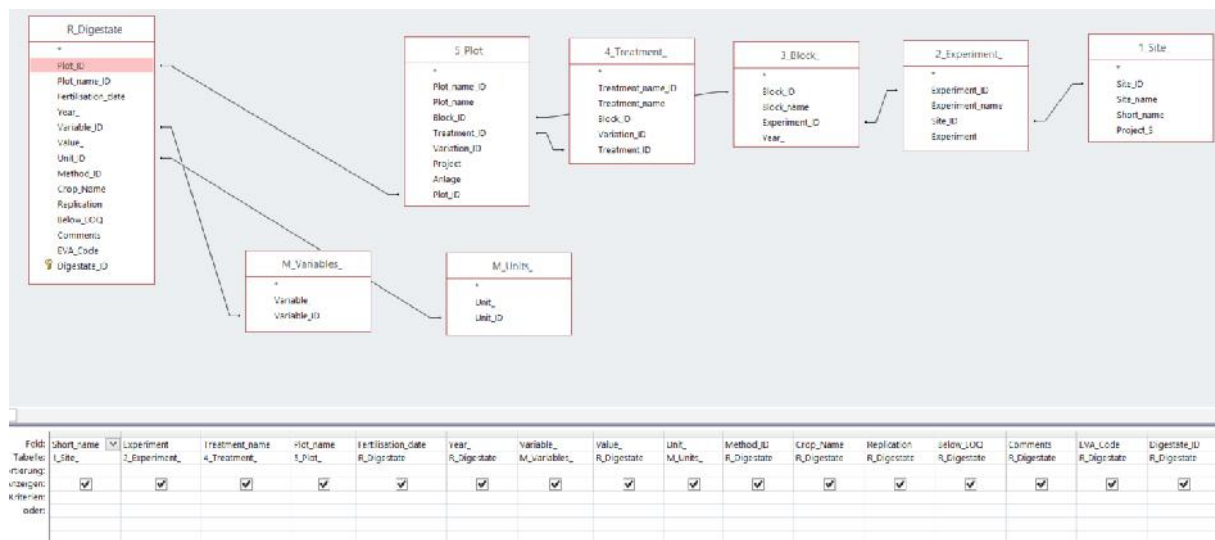

Figure 13: Query setup of the „user-friendly“ table (Feld = Field, Tabelle = Table, Sortierung = Sort, Anzeigen = Show, Kriterien = Criteria, Oder = Or)
6. In the query design, all tables with their field names are now displayed (see Figure 13). Double-click on the field name will add a column into the query grid (lower part of the window). The query setup contains the following columns in the query grid: